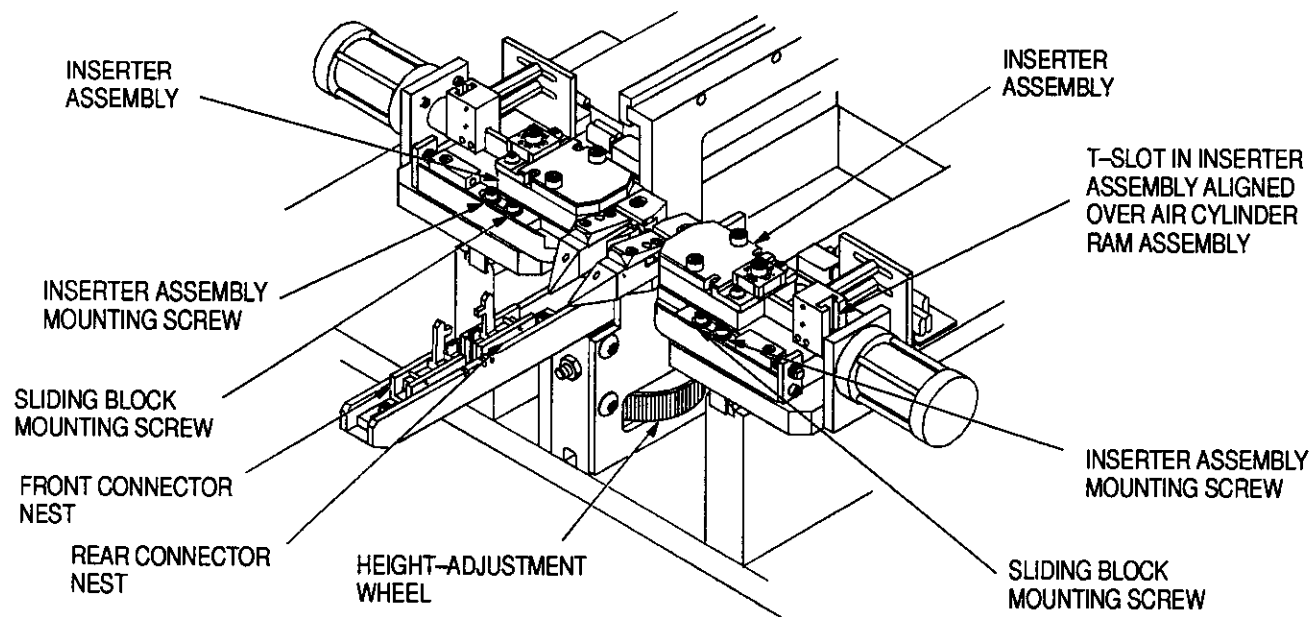

Figure 3
3. Using a 5/32-in. hex wrench, loosen the two inserter assembly mounting screws. See Figure 3.
4. Loosen the sliding block mounting screws shown in Figure 3.